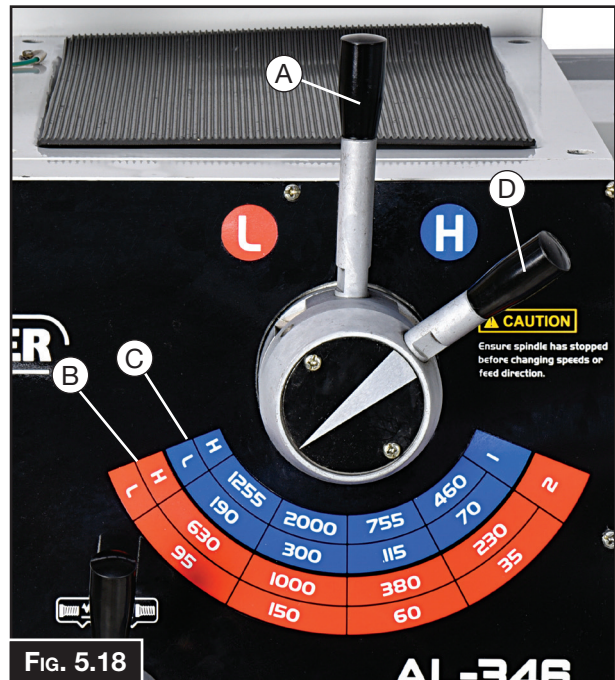

FIG. 5.18
1. Sets the High/Low lever. (A in Fig. 5.18)
- Low Range 35 - 150 rpm. range (B in Fig.5.18)
- Hi-Range 230 - 1000 rpm. range (B in Fig.5.18)
- Low Range 70 - 300 rpm. range (C in Fig.5.18)
- Hi-Range 450 - 2000 rpm. range (C in Fig.5.18)
2. Speed dial lever selects the speed in the scale displayed. (D in Fig. 5.18)